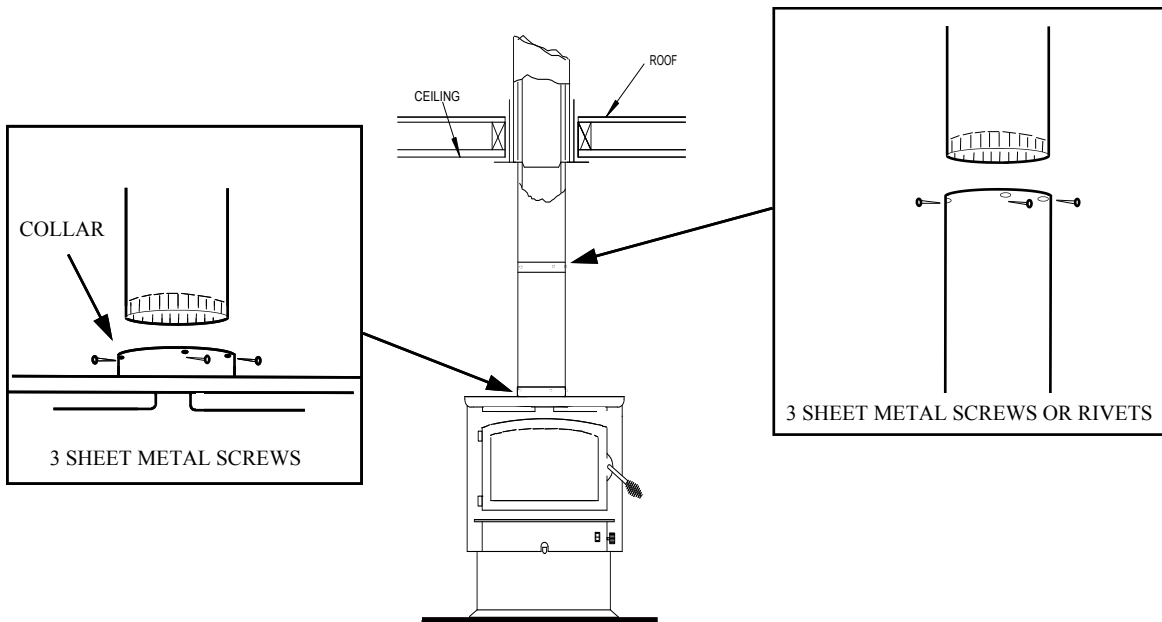

Figure 5
Now connect the stove and ceiling support box using #24 ga. minimum blue or black steel connector pipe (**DO NOT USE GALVANIZED PIPE**). Connect each section so the crimped end faces downward, and secure each section to each other using at least three (3) sheet metal screws or rivets. Also use three (3) sheet metal screws to fasten pipe to collar on heater. (See Figure 5. Page 14.)